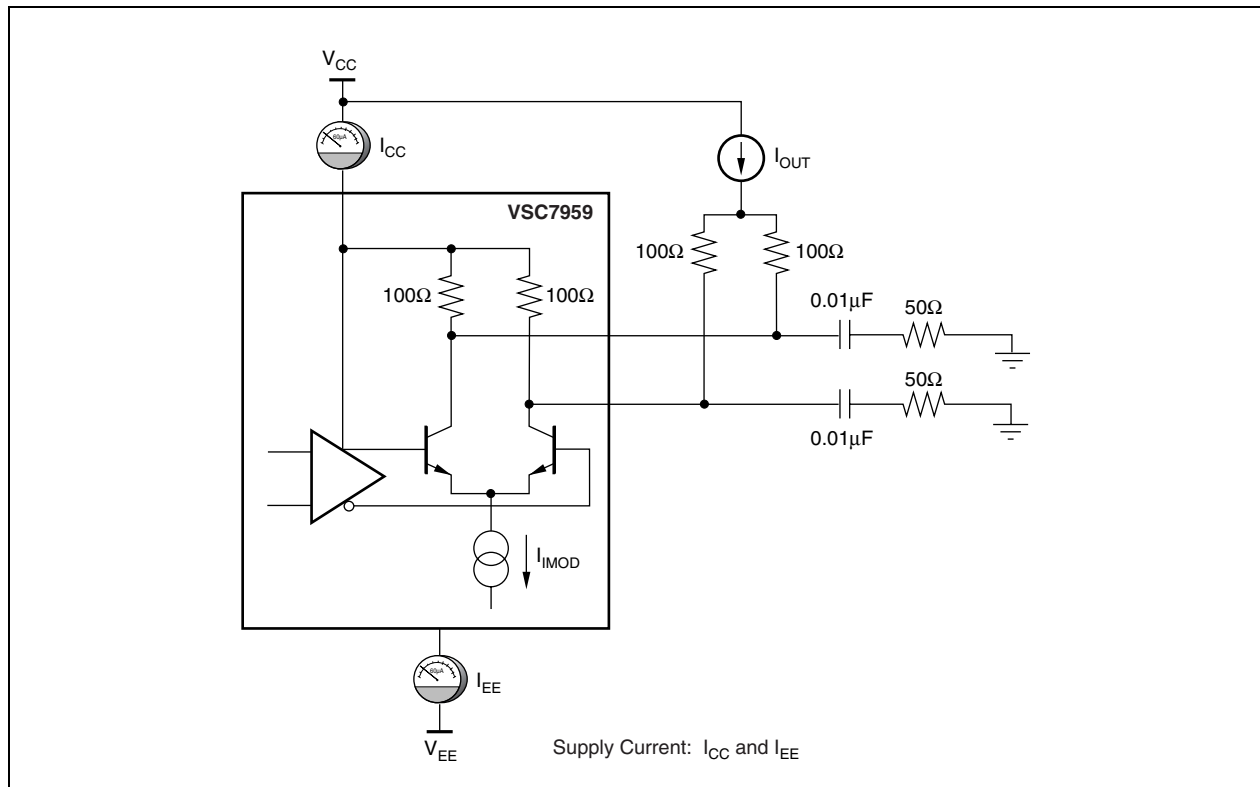

Figure 1. Supply Current Measurement
1. See Figure 1 for supply current measurement setup.